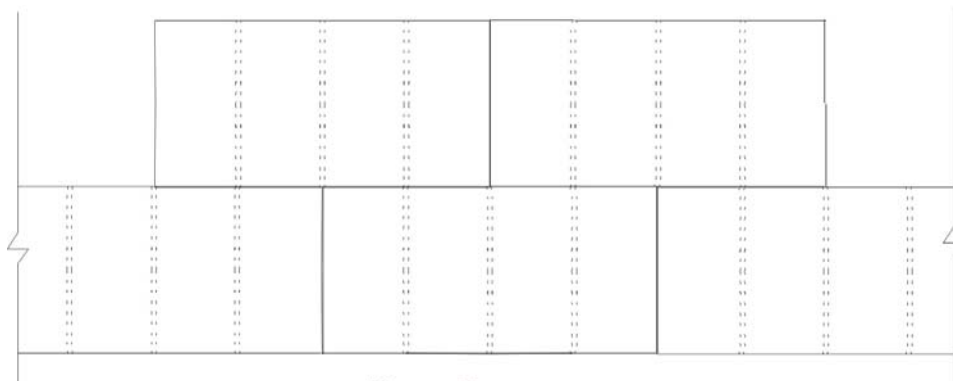

Figure 6
- 8.3.5. Install subsequent rows of insulation board in a running bond pattern (vertical joints staggered) as shown in Figure 6. Please note the alignment of vertical grooves is not required.